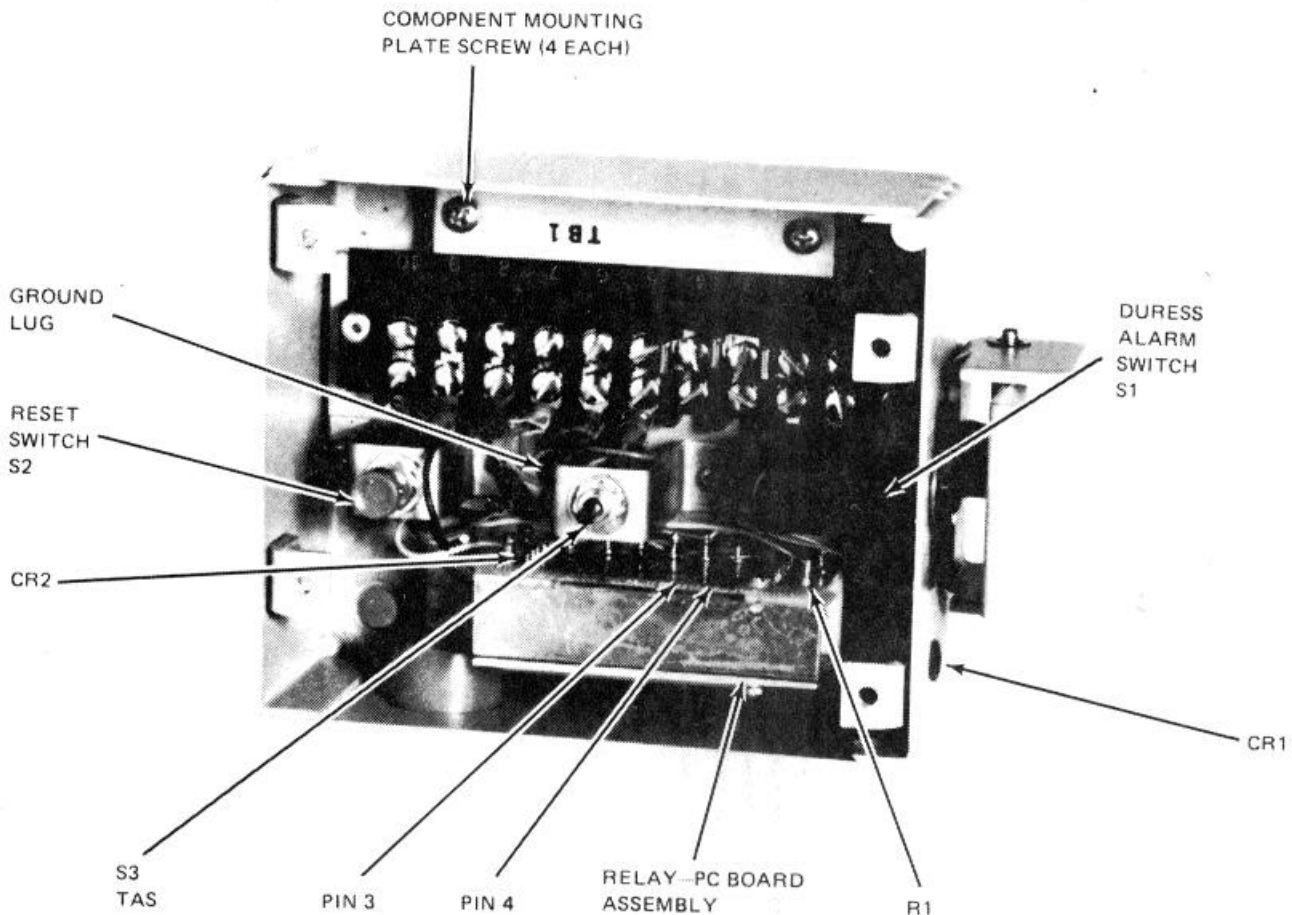

Figure 5-1. Latching Alarm Switch with Callouts for Troubleshooting Test Points
- (6) Inspect all metal surfaces intended to be painted for condition of finish and legibility of panel lettering.
- f. Refer to figure 5-1 for all test points referred to in table 5-1. Step-by-step troubleshooting procedures, including Trouble, Probable Cause, and Corrective Action, are listed in table 5-1.